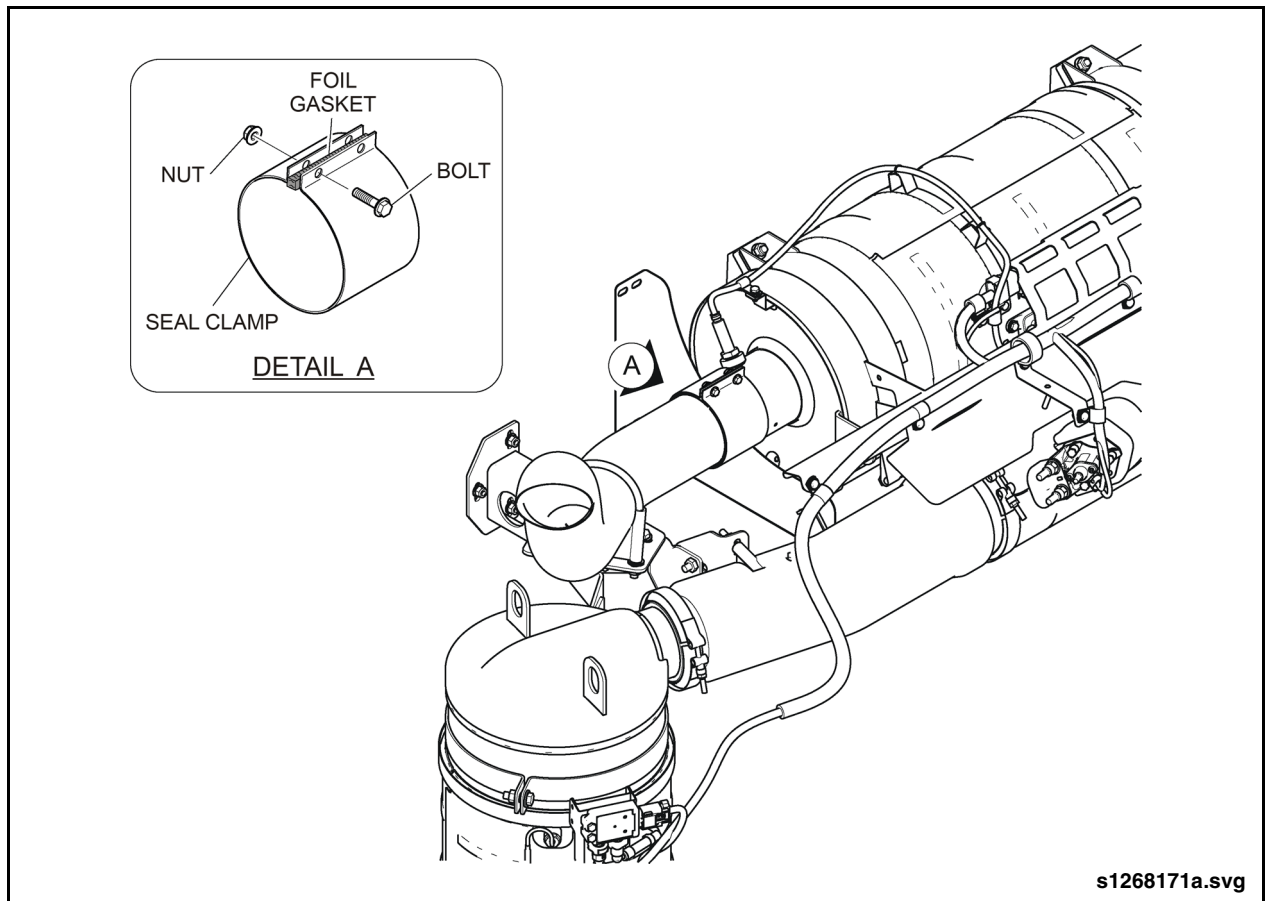

Fig. 2: Seal Clamp Replacement
2. Remove the tailpipe seal clamp and discard the clamp and fasteners. See "Fig. 2: Seal Clamp Replacement" on page 3.